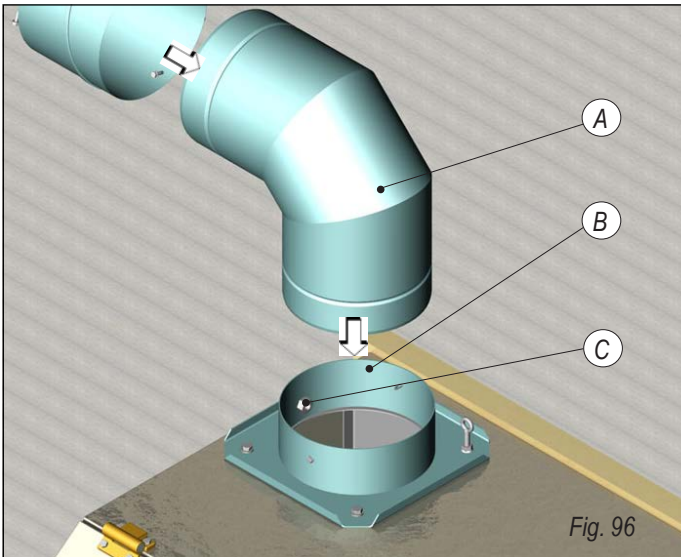
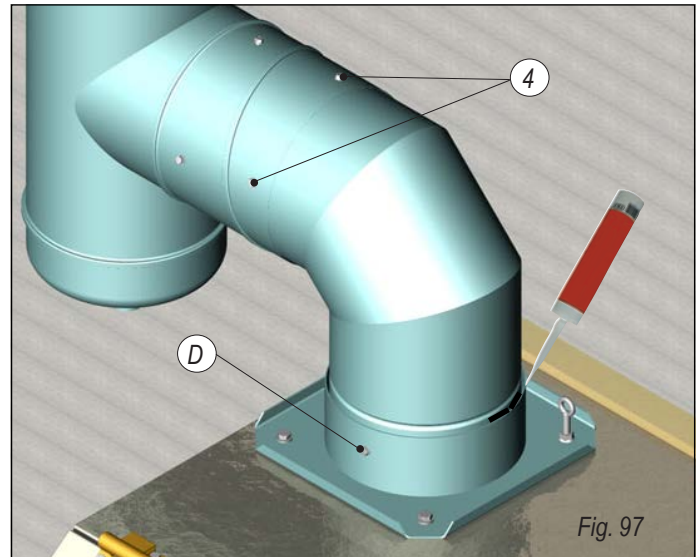

Fig. 96
Fig. 97
Insert the elbow (A) in the generator exhaust gas duct connection (B) until the combustion test tap nut (C), see fig. 96. Seal the elbow on the generator exhaust gas duct connection and all the other connections with silicone. Fasten all the connections with 4 self-drilling screws, see fig. 97.